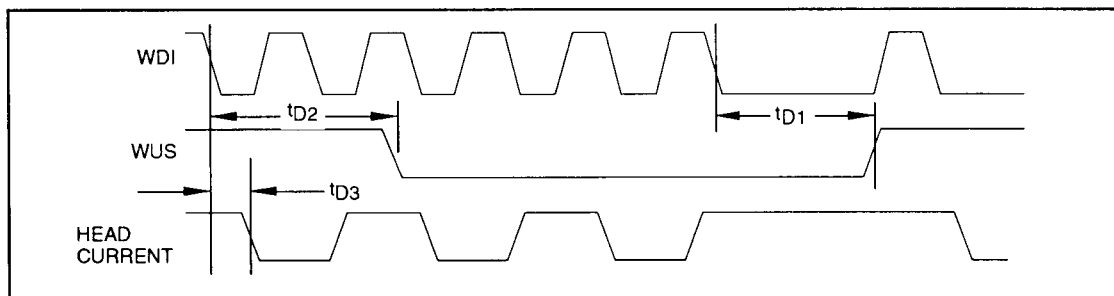

Figure 1: Write Mode Timing Diagram
**SWITCHING CHARACTERISTICS** Recommended operating conditions apply unless otherwise specified;  $I_W = 20\text{mA}$ ,  $f_{\text{DATA}} = 5\text{MHz}$ ,  $L_H = 1\mu\text{H}$ ,  $R_H = 30\Omega$ ,  $C_L$  (RDX, RDY)  $\leq 20\text{pF}$  (see figure 1).